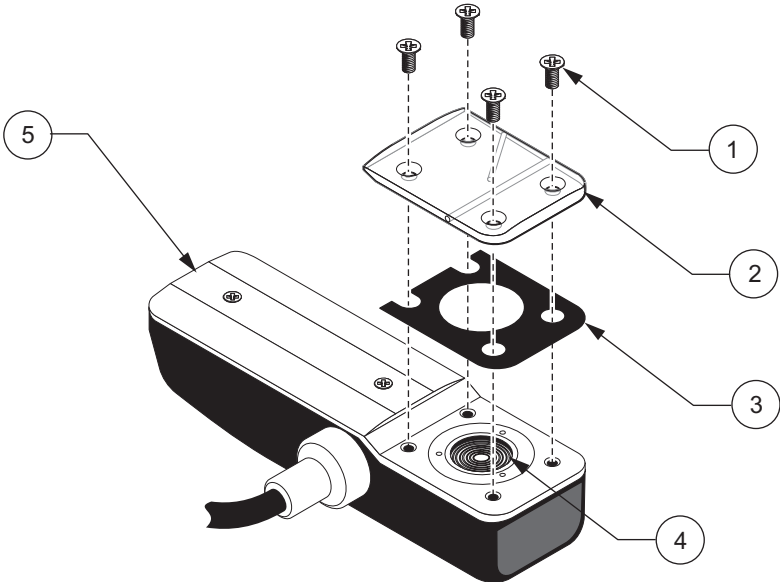
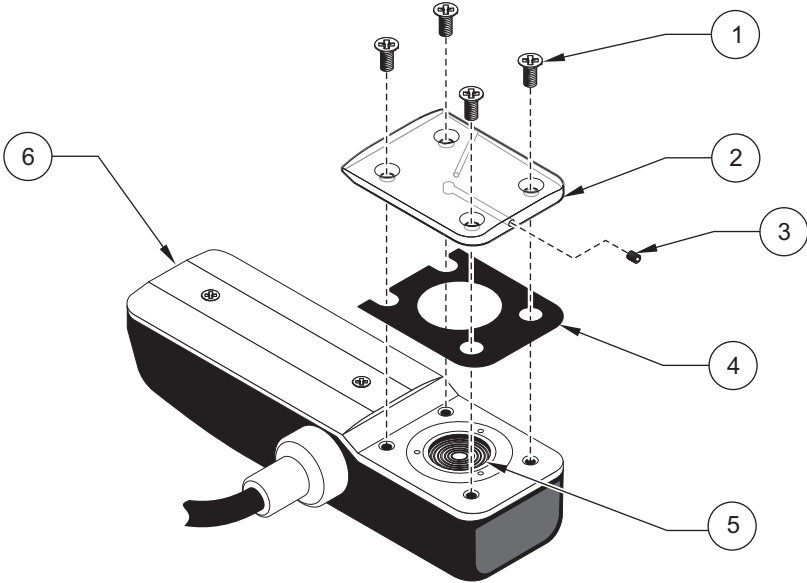

Figure 33 Removing the Protective Cover (Non-Oil Sensor)
Figure 34 Removing the Protective Cover (Oil-filled Sensor)
2. Remove the screws from the protective cover (Figure 33 and Figure 34 on page 61).
6. Reattach the gasket and the cover (note orientation in Figure 34 on page 61). Tighten the screws until the gasket starts to compress.